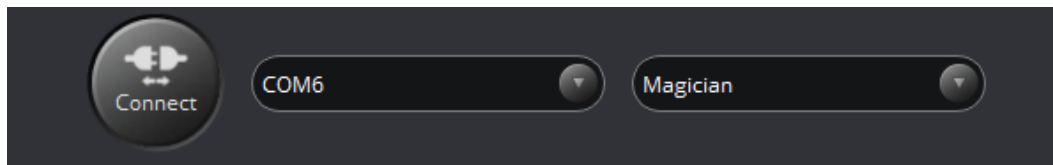
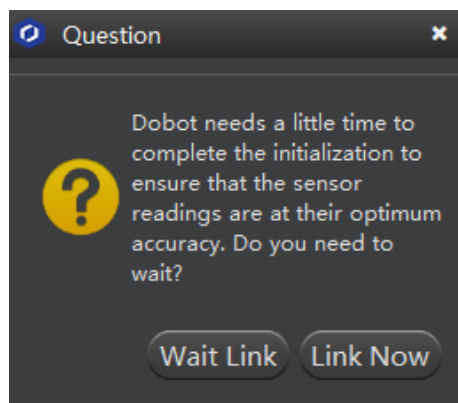

Figure 2.14 Click Connect
Figure 2.15 The Question dialog box
- Step 2** Click **Connect** on the DobotStudio page, as shown in Figure 2.14. The **Question** dialog box is displayed, as shown in Figure 2.15.